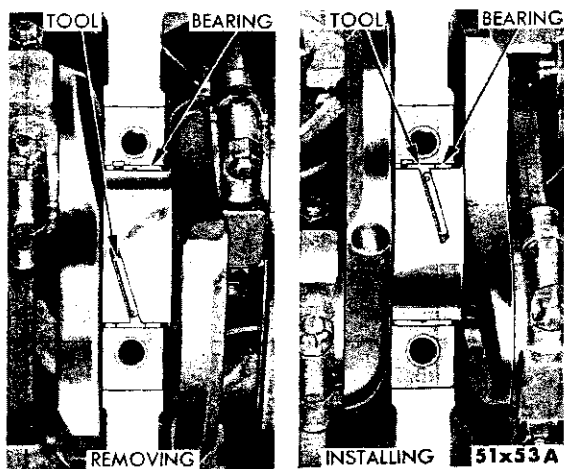

Fig. 48—Removing Main Bearing Upper Shell
(1) Remove the oil pan and mark bearing caps before removal.
(2) Remove the bearing caps one at a time. Remove the upper half of bearing by inserting Tool C-3059 (Fig. 48) into the oil hole of crankshaft.
(3) Slowly rotate crankshaft clockwise, forcing out upper half of bearing.
(1) Lubricate the bearing. Start bearing in place, and insert Tool C-3059 into the oil hole of crankshaft (Fig. 48).
(2) Slowly rotate the crankshaft counter-clockwise sliding the bearing into position.
(3) After all bearings have been fitted, tighten all caps to 85 foot-pounds torque. The crankshaft end clearance at the No. 3 main bearing should be .002 to .007 inch.